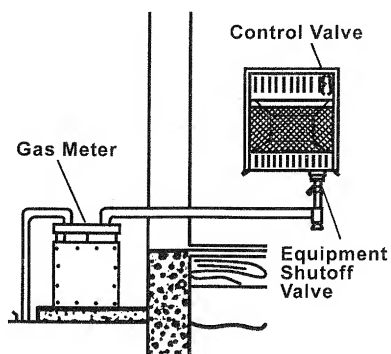

Figure 15 - Checking Gas Joints
3. Check all joints from gas meter to equipment shutoff valve (see Figure 15). Apply mixture of liquid soap and water to gas joints. Bubbles forming show a leak.
4. Check all joints from equipment shutoff valve to control valve (see Figure 15). Apply mixture of liquid soap and water to gas joints. Bubbles forming show a leak.